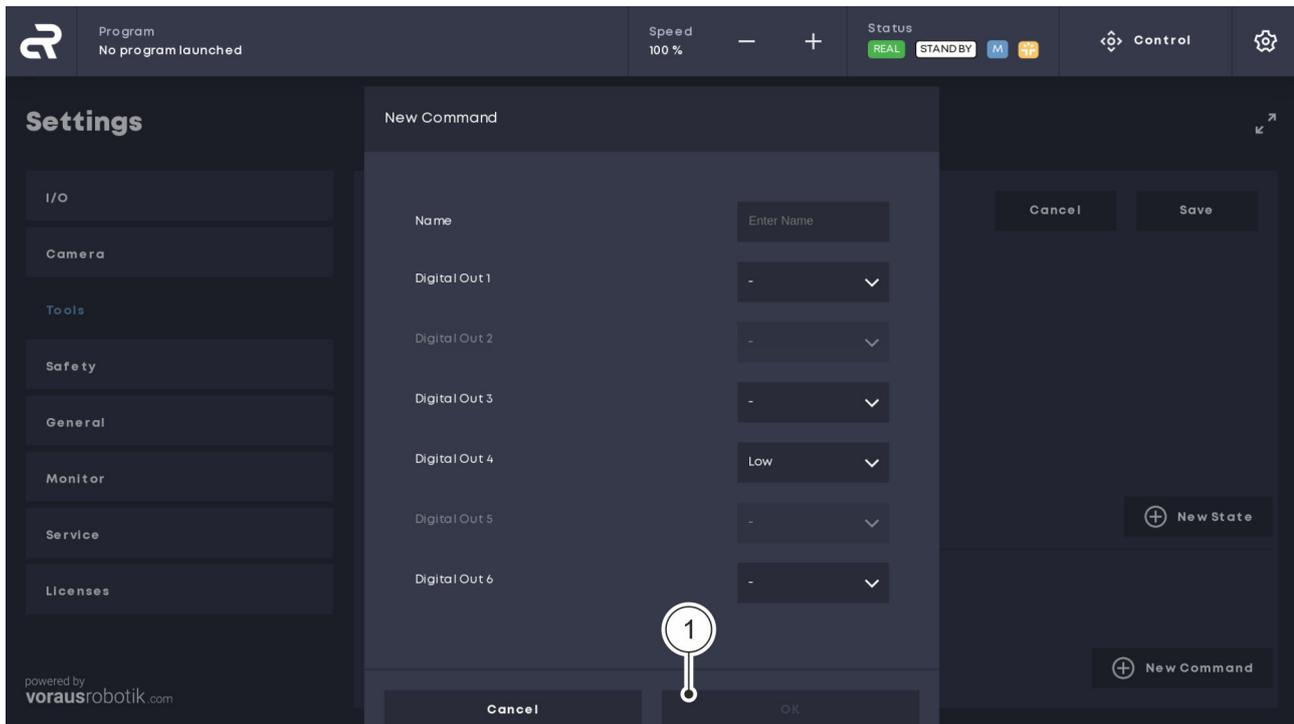

Fig. 24 Defining a command
10. In the 'New Command' menu, define the states of the digital outputs according to the owner's specifications and confirm with 'OK' Fig. 24 / ①.